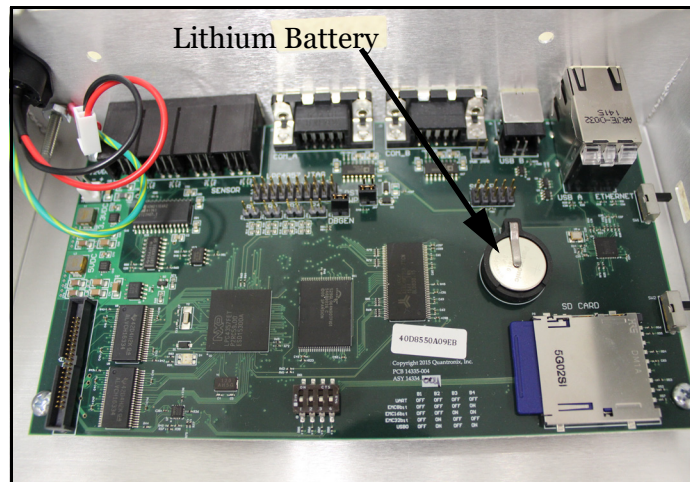

Figure 50
5. Locate the Lithium battery inside the controller box (see **Figure 50**).